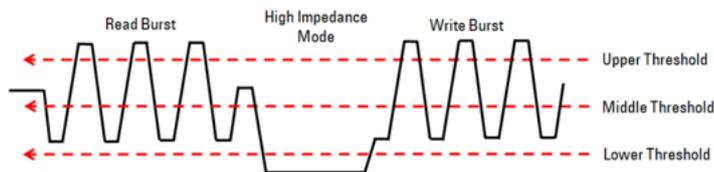

Figure 76 High Impedance (Idle) Level
- 4 The High Impedance (Idle) level is around the middle level of the burst. If that level is at a higher or lower level than the burst amplitude (as shown in Figure 76), TopBase Ratio mode may not be effective.